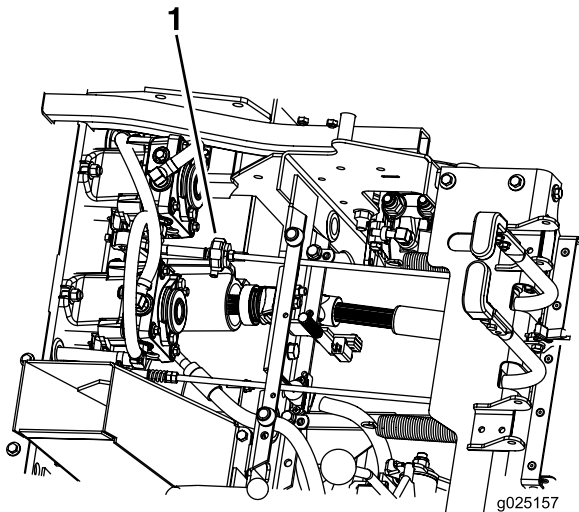

Figure 44
6. Check and ensure that the machine does not creep when it is in NEUTRAL with the parking brake disengaged (Figure 44).